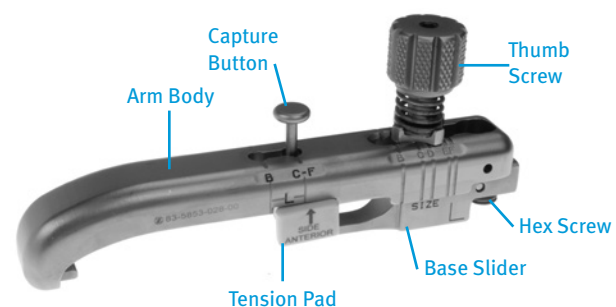

Fig. 148
- If there is not sufficient clearance on the distal end of the RH Knee Femoral Component for the Condylar Trepine Guide instrumentation (Fig. 148) to be used properly due to biological obstructions, an alternate freehand technique may be used to locate the hinge pin as follows.